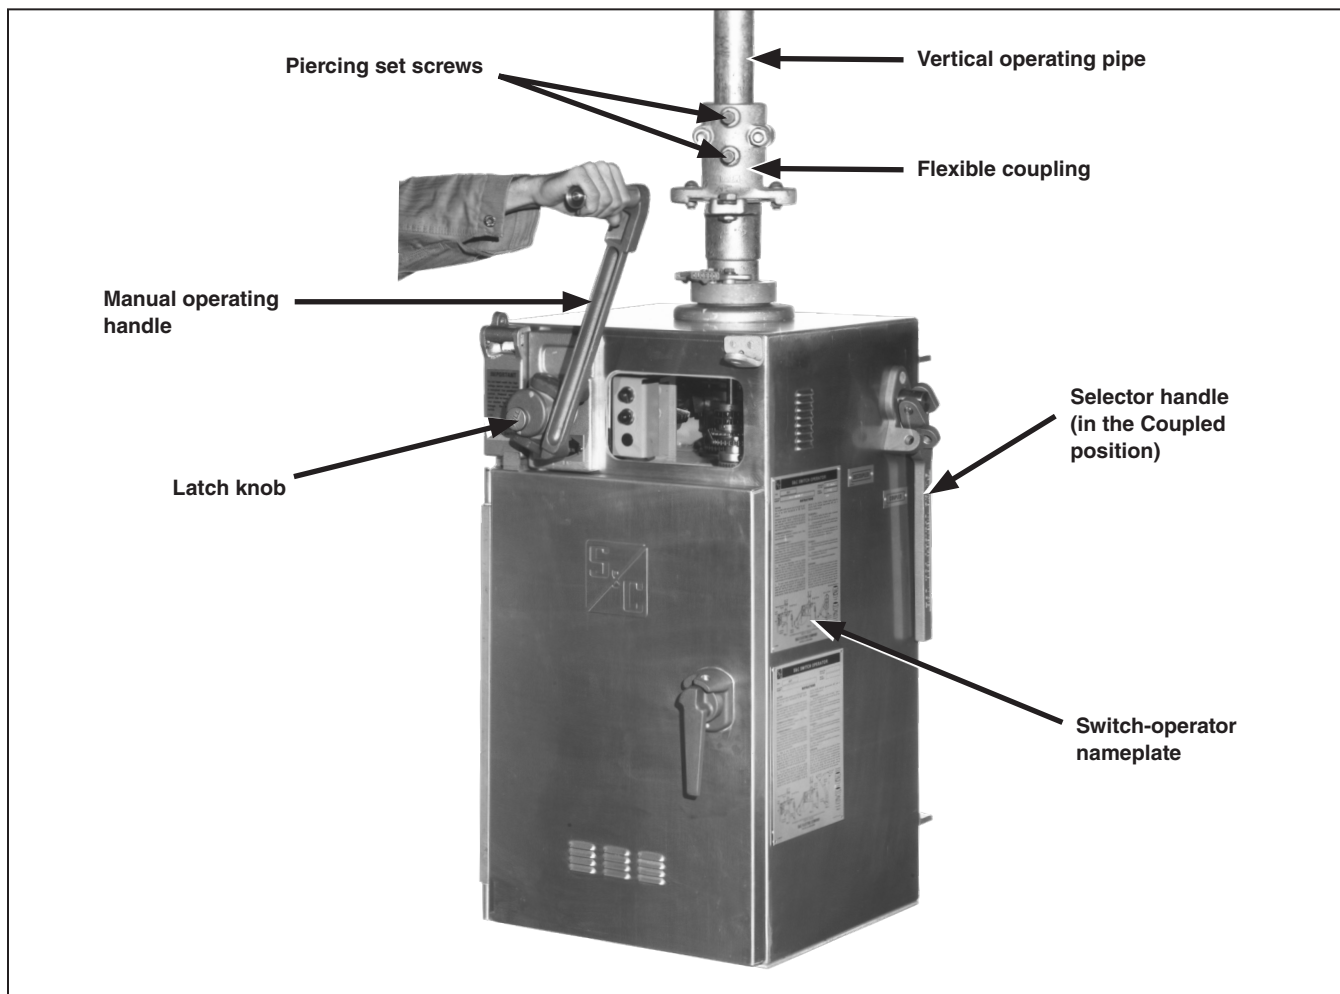

Figure 3. Manual Operation.
Before operating the Type LS-2 Switch Operator, become familiar with the parts of the switch operator as shown in Figure 2 on page 7 and Figure 3 on page 8. Before operation, make sure the switch-operator output shaft has been connected to the high-voltage switch, electrical connections to the control source have been completed, and the switch operator has been correctly adjusted in accordance with S&C Instruction Sheet 753-500.
**STEP 2.** Release the latch knob while continuing to pivot the handle forward to lock it into the **Cranking** position. See Figure 3 on page 8.